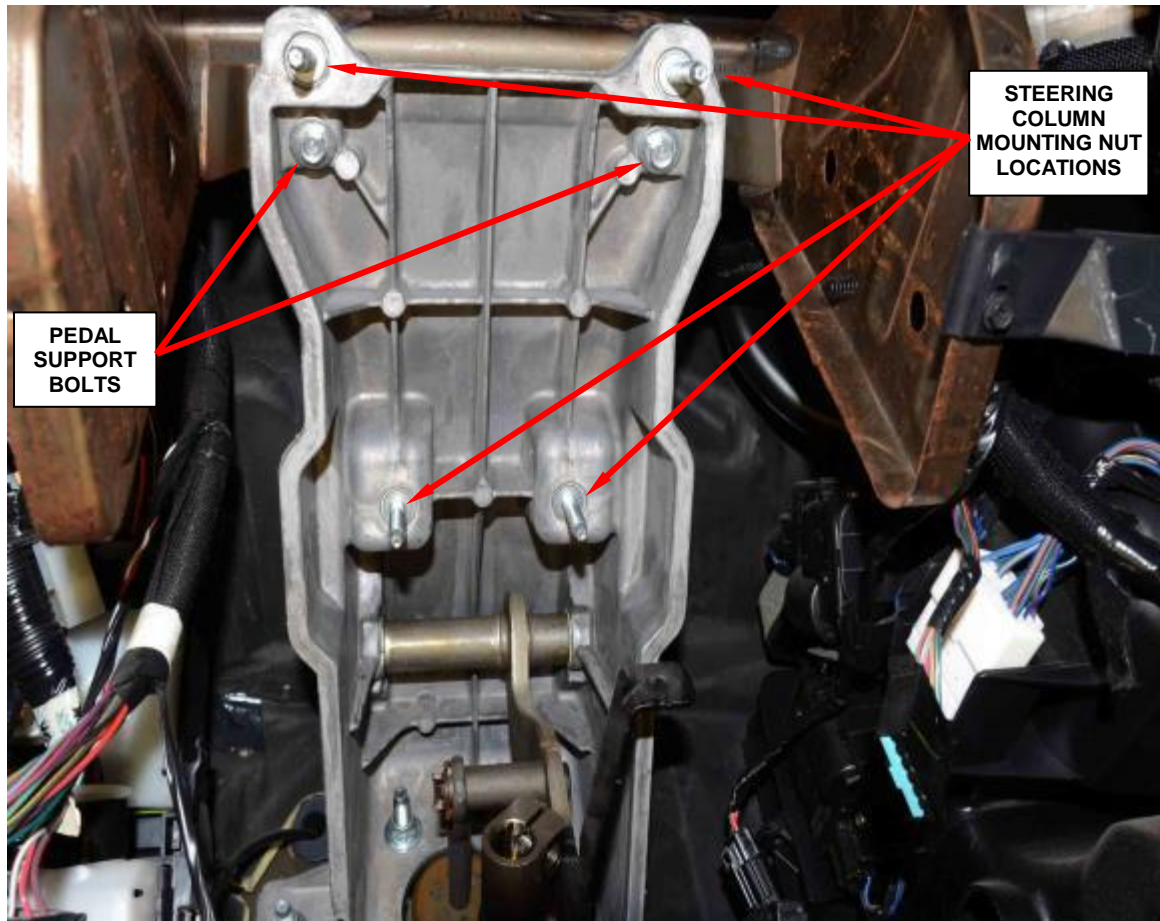

Figure 93 – Pedal Support Bolts
18. Remove the bolts from the pedal support (Figure 93).